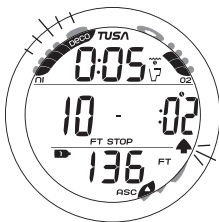

Fig. 81 - DECO ENTRY
**Deco Entry** information includes (Fig. 81)